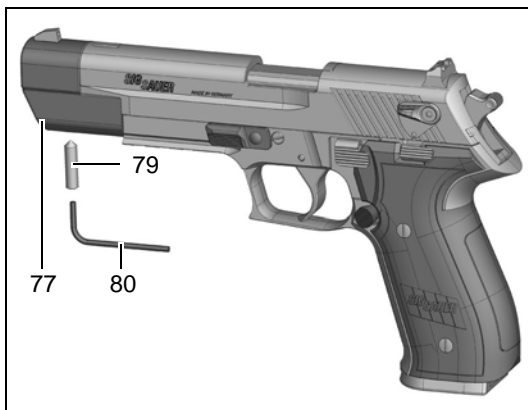

Fig. 8
1. Release the threaded pin **79** using the allen wrench **80** and remove it (see Fig. 8).